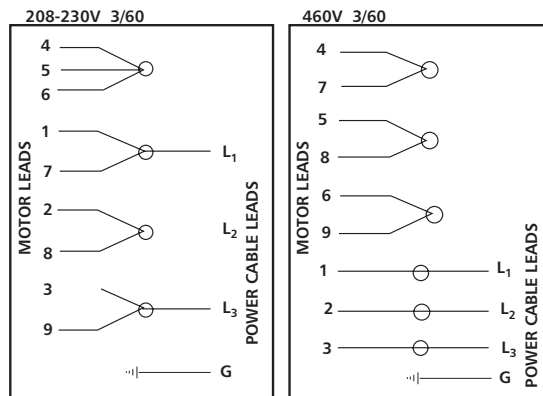

Figure 6
- Three Phase Motors – See Figure 6.